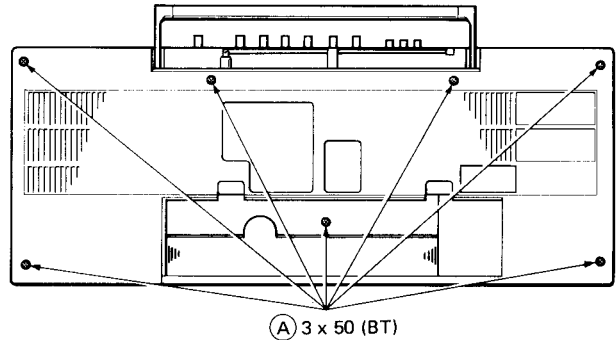

Fig. 4
- 2) The rear case can be removed by removing 7 screws (A) shown in Fig. 4.